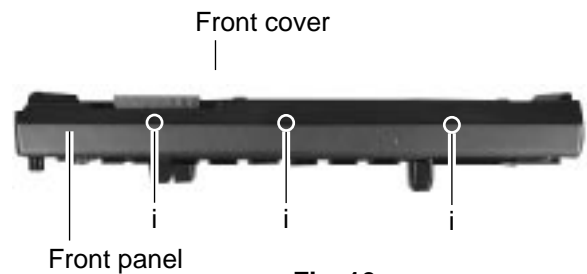

Fig. 10
1. Raise the part k of the reel base assembly slightly and remove the selector link (B) on the front side of the cassette mechanism assembly by turning it as shown in Fig.10.